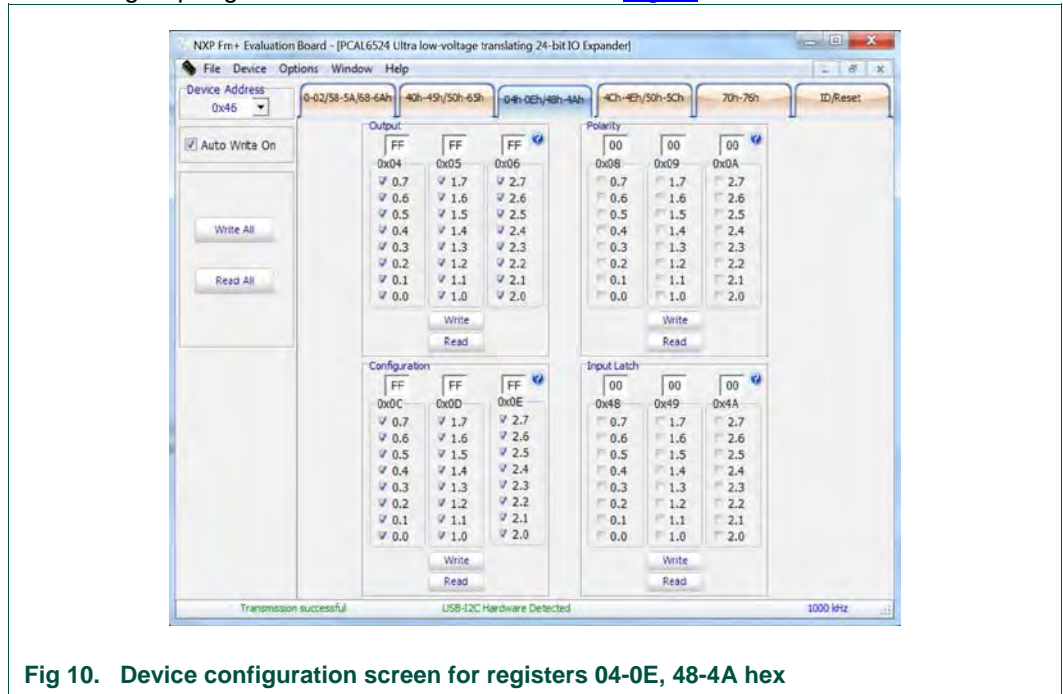

Fig 10. Device configuration screen for registers 04-0E, 48-4A hex
4. Third group registers read or write are shown in Fig 10.